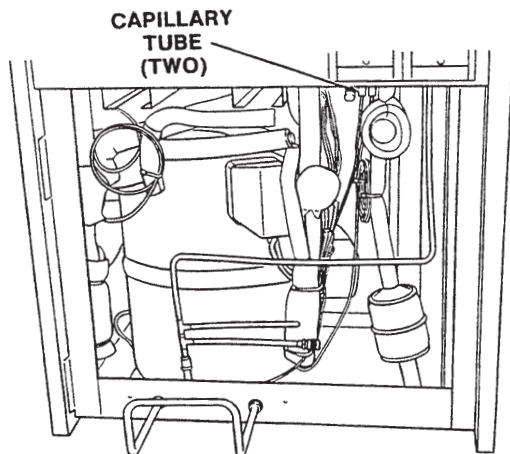

Figure 43. Capillary Tube and Drier Assembly
- Position the capillary tube and braze the tube to the hopper using the appropriate material. (Figure 43)